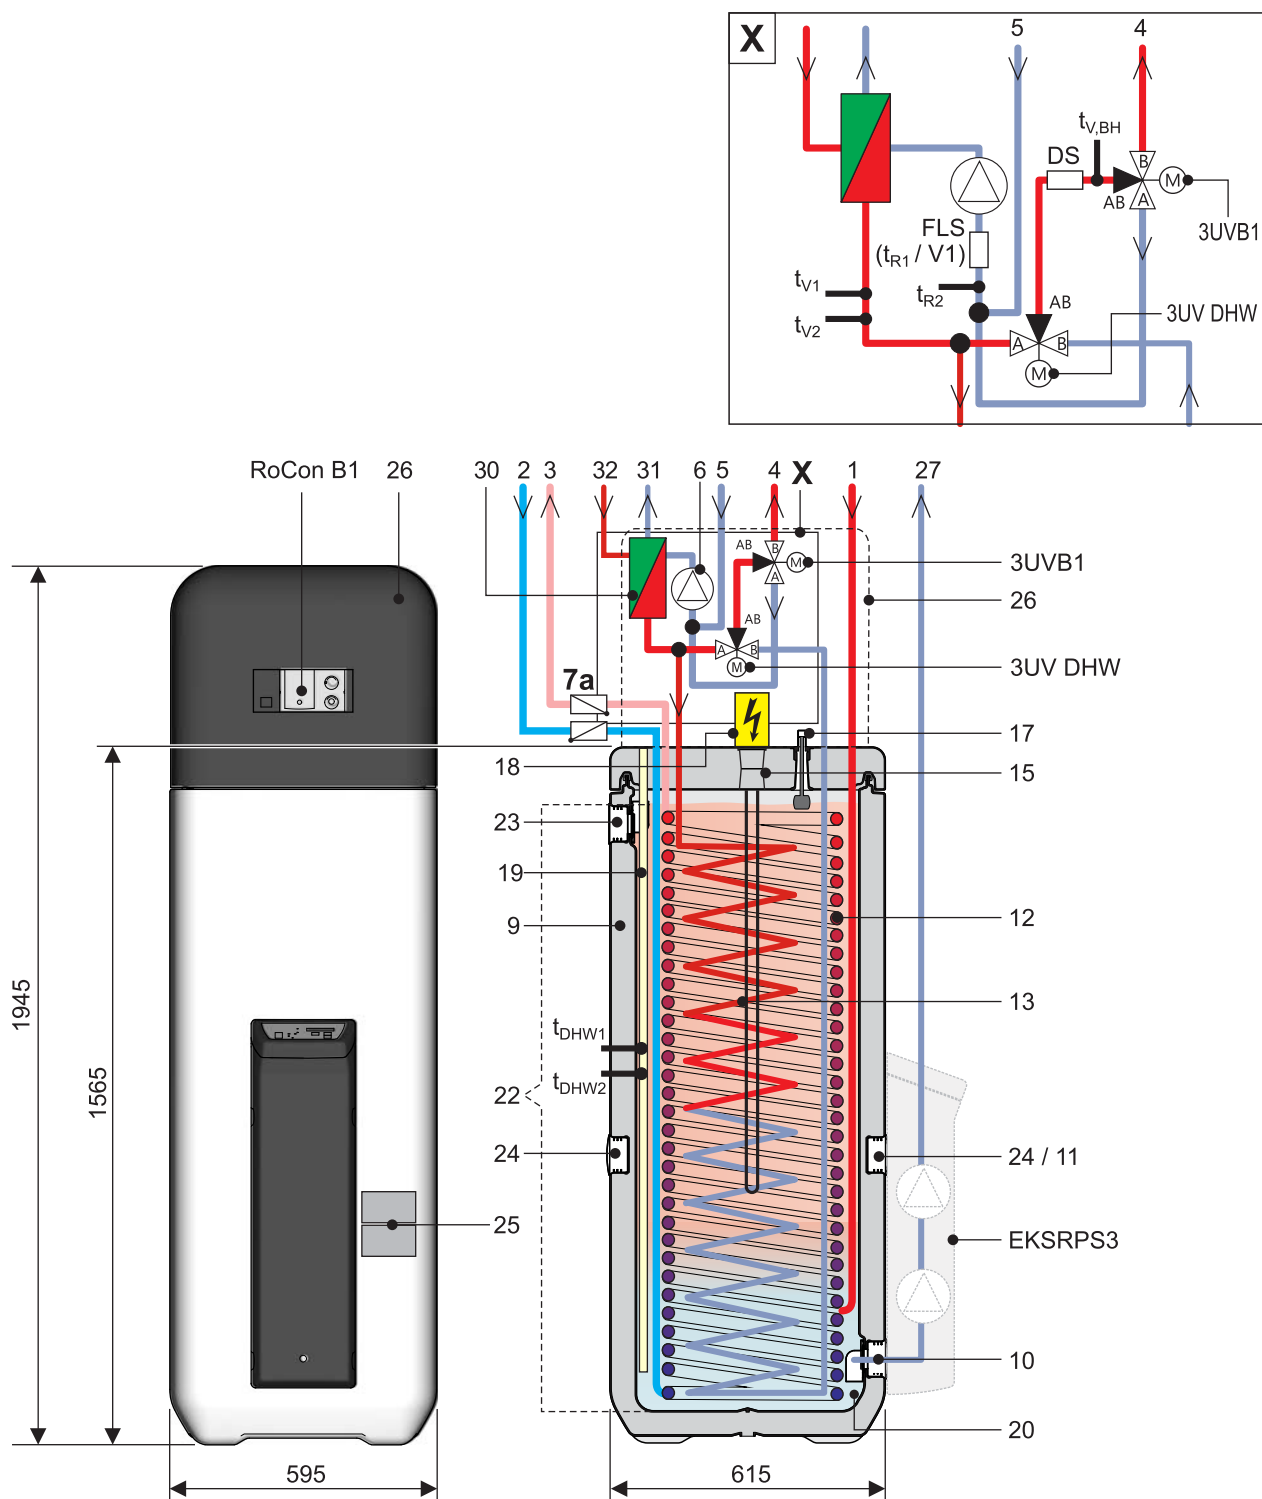

Fig. 2-2 Design and components of the Daikin Altherma EHS(X/H)...P30A (external view and internal design)
Tab. 2-1 Legend from fig. 2-2 to fig. 2-5
- Remove the cover plates on the storage tank (fig. 3-4, item B) and unscrew the threaded pieces (fig. 3-4, item F) from the apertures on which the handles are to be mounted (fig. 2-2 to fig. 2-5, item 24).